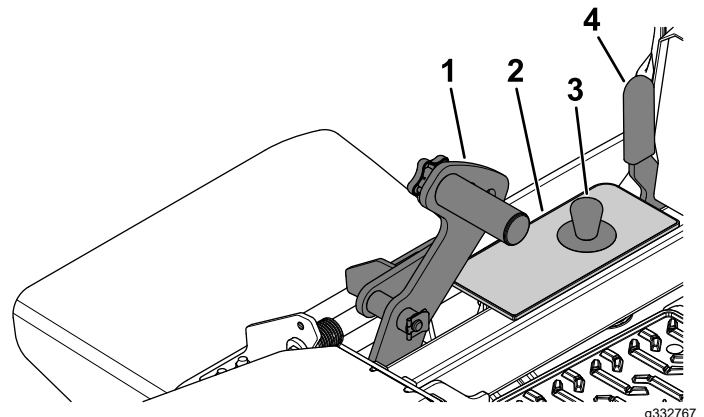

Figure 33
1. Push the deck-lift pedal fully forward to lock the mower deck in the TRANSPORT position (also the 127 mm/5 inches cutting height position) as shown in Figure 33.
2. To adjust, remove the pin from the height-of-cut bracket (Figure 33).
3. Select a hole in the height-of-cut bracket corresponding to the height of cut desired, and insert the pin (Figure 33).